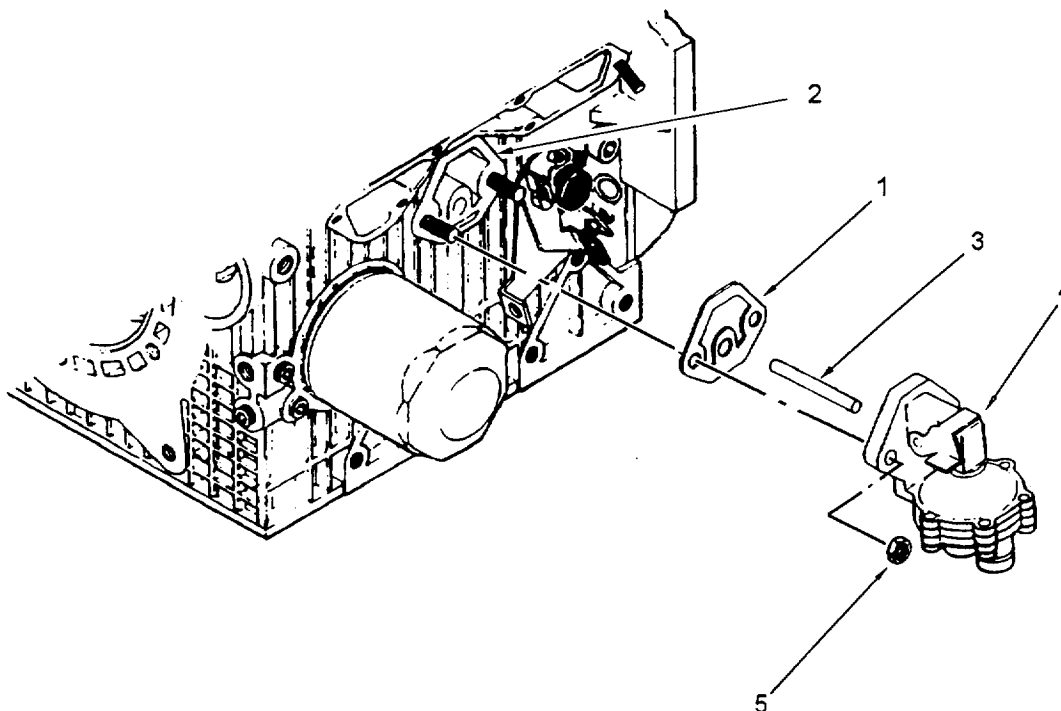

Figure 6-45. Fuel Pump Installation
6.4.21 Install Fuel Pump. (Refer to figure 6-45.)